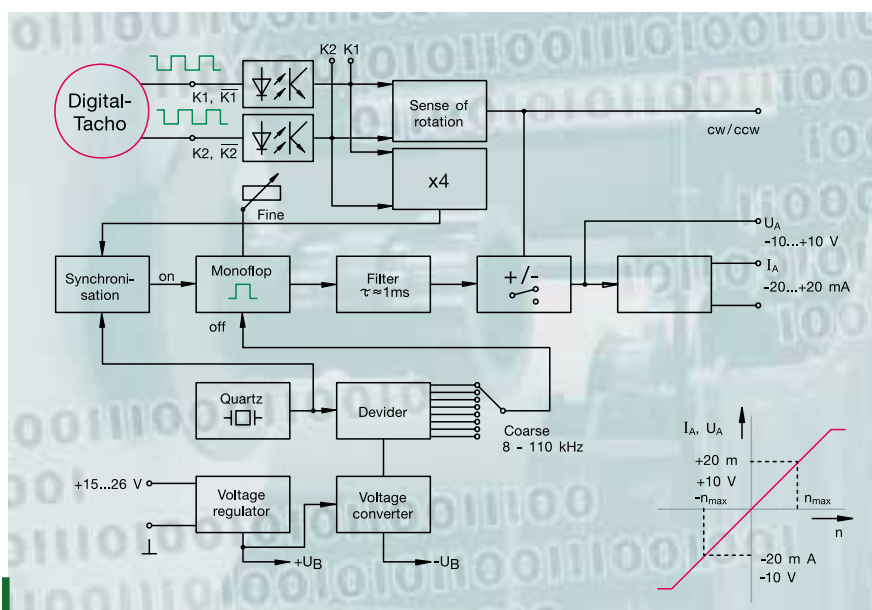

Figure 31: The bipolar f/A converter HEAG 121 P with opto-coupler input generates an analogue voltage relative to the incremental signal frequency.
- The **Bipolar f/A Converter HEAG 121 P** with opto-coupler inputs for electrical isolation, converts squarewave signals with a frequency f into a bipolar (for direction indication) **analogue value** $U_A(f)$ or $I_A(f)$. The inputs can be selected for the signal level TTL (+5 V) or HTL (+9 V ... 30 V) and for the number of channels $K1, K2$ or $K1, \bar{K}1, K2, \bar{K}2$. The ripple of the output voltage is $\leq 1\%$ for a signal frequency $f \geq 200$ Hz. The linearity tolerance of the quartz-stabilized converter is $\leq 0.02\%$ (➔ Figure 31).